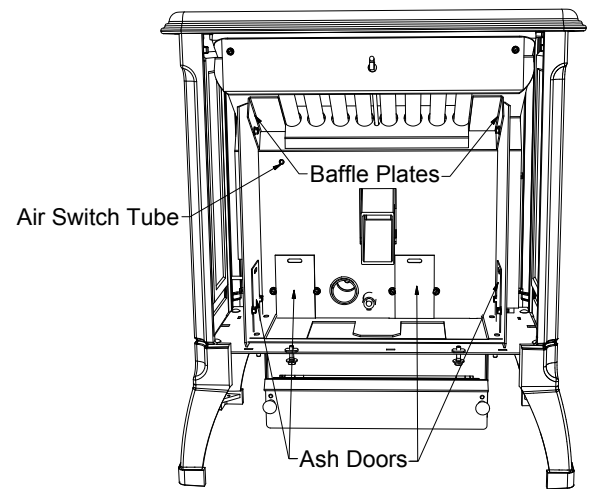

FIGURE 19
- b. Interior Chambers – Four ash doors and two upper baffles in the firebox in your model can be removed for periodic cleaning (Figure 19). These doors allow access to the chamber surrounding the firebox.